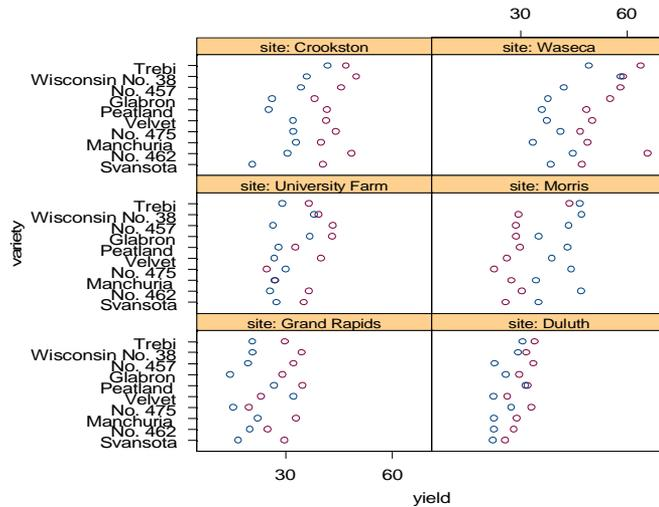

Figure 3.41: Unformatted Trellis plot of barley yields for 1931 and 1932.
- Click the **Color** button  on the **Plots 2D** palette. A Trellis graph appears showing barley yield for each variety, conditioned on the site. The yields for 1931 and 1932 appear in different colors. The resulting graph is shown in Figure 3.41.